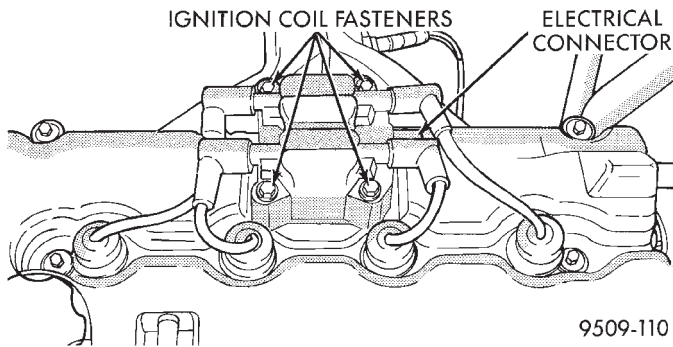

Fig. 18 Ignition Coil Pack
- (1) Remove ignition coil pack (Fig. 18).